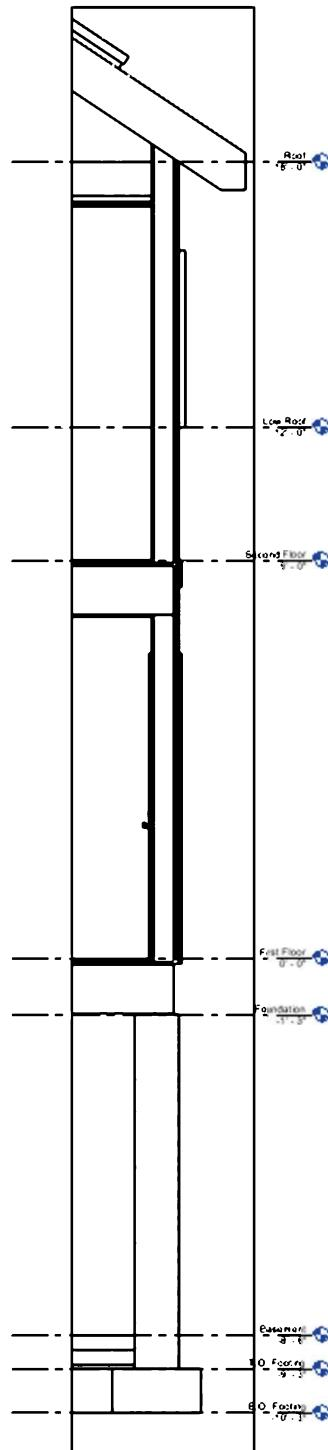

FIGURE 11-3.2 Callout of Cross Section 1
5. Double-click on the reference bubble portion of the *Callout* tag to open the *Cross Section 1 – Callout 1* view (Figure 11-3.2).